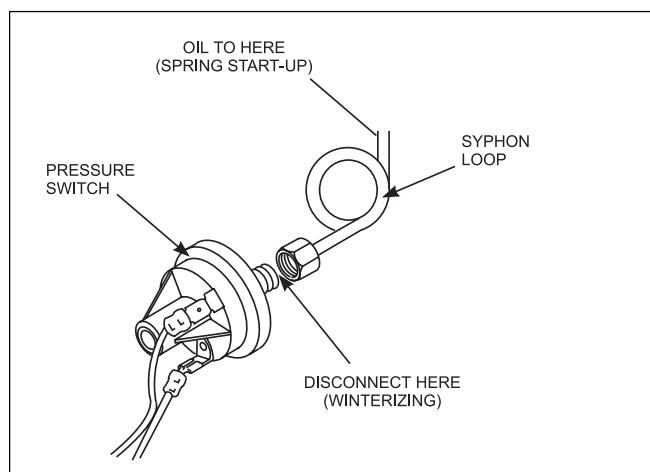

Figure 28. Winterizing the Pressure Switch
8. Disconnect the pressure switch from the siphon loop (copper tubing) (see Figure 28).
1. Fill the siphon loop with approximately 5cc of SAE 50, non-detergent oil. Attach the copper tubing to the pressure switch (see Figure 28).